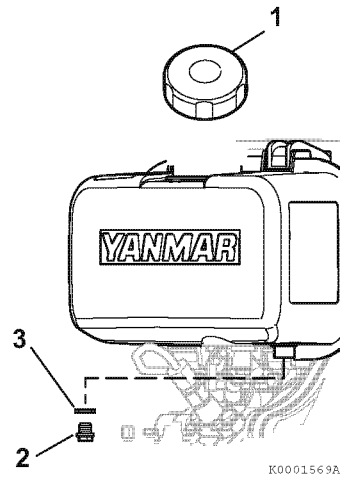

Figure 5-11
1. Remove the fuel cap (1, **Figure 5-11**).
2. Position an approved container under the fuel tank to collect the fuel and remove the fuel tank drain plug (2, **Figure 5-11**) and gasket (3, **Figure 5-11**) to drain the fuel.
8. Tighten the fuel tank drain plug (2, **Figure 5-11**) with new gasket (3, **Figure 5-11**).
9. Replace the fuel cap (1, **Figure 5-11**) and hand-tighten. Over-tightening the fuel cap will damage it. Refill fuel tank. *See Filling the Fuel Tank on page 4-10.*